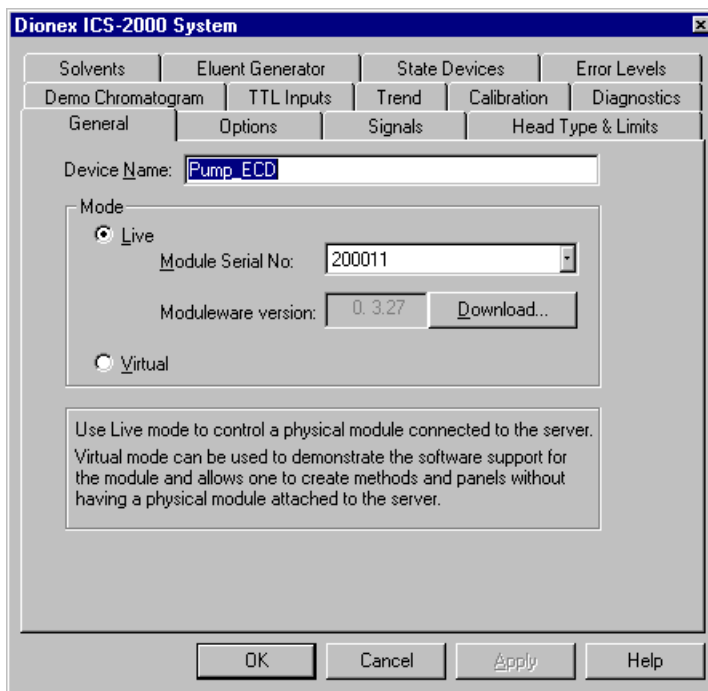

Figure 16. ICS-2000 System Properties
3. The ICS-2000 System dialog box opens (see Figure 16). The **General** page shows the Device Name (**Pump_ECD**), the Mode (**Live**), and the Module Serial No.